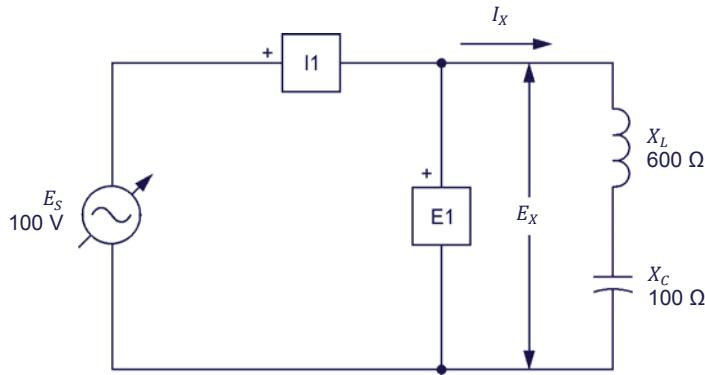

Figure 2-16. Series ac circuit containing an inductor and a capacitor.
6. Set up the circuit shown in Figure 2-16.
In this section, you will calculate the equivalent reactance  $X_{Equi}$  of the reactive components in the circuit of Figure 2-16. You will measure the voltage  $E_X$  and current  $I_X$  and calculate the equivalent reactance  $X_{Equi}$  from these values. Using the Oscilloscope, you will determine the phase relationship between the voltage  $E_X$  and current  $I_X$  and whether the equivalent reactance is inductive or capacitive. You will then interchange the inductive and capacitive reactance values in the circuit and repeat the previous manipulations. You will determine the relationship between the polarity of the equivalent reactance  $X_{Equi}$  of the reactive components and the nature of the equivalent reactance (inductive or capacitive).